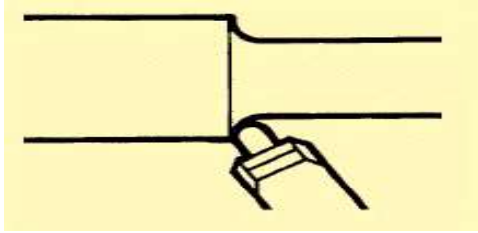

Figure 7-52. Cutting a filleted corner.
**Filleted Shoulders:** Filleted shoulders or corners are rounded to be used on parts which require additional strength at the shoulder. These shoulders are machined with a round-nose tool bit or a specially formed tool bit. This type of shoulder can be turned and formed in the same manner as square shoulders. Filleted corners are commonly cut to double-sided shoulders. (Figure 7-52).